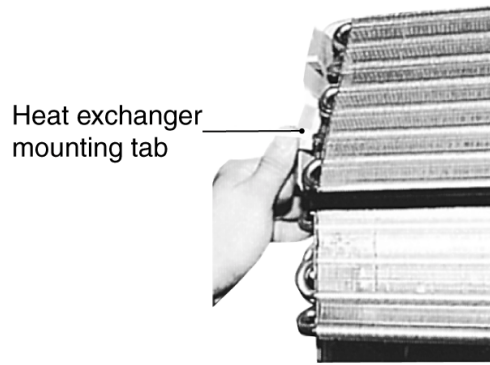

Fig. 11
4. Take off the mounting tab at the left of the Heat Exchanger, pull the Heat Exchanger forward (left side) and remove the Cross Flow Fan. (Fig 11.)